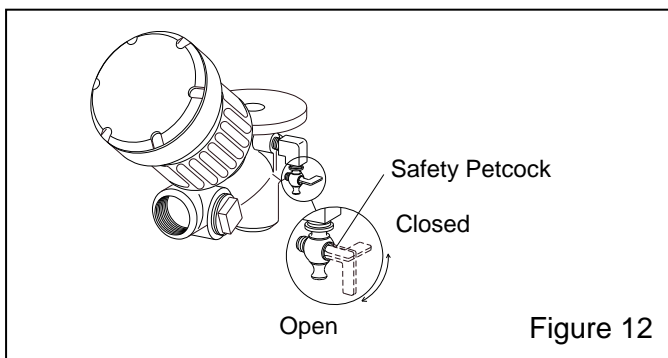

Figure 12
4.1.1.4 Open the safety petcock on the Millennium inlet valve. The valve is open when the lever is in-line with the petcock, as shown in Figure 12.